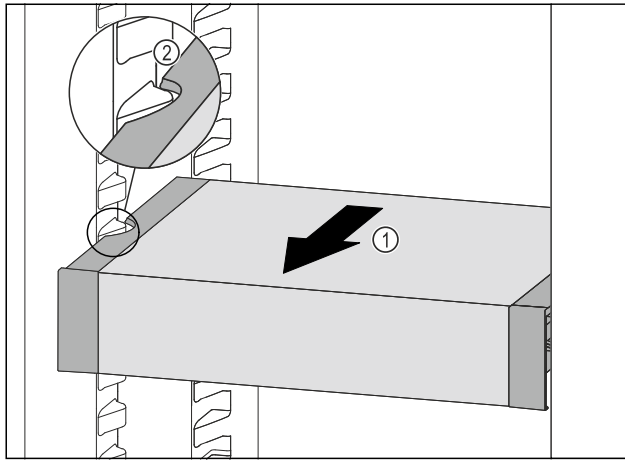

Fig. 124
- Pull VarioSafe forwards Fig. 124 (1) until the recesses in the side of the VarioSafe are at the level of the support rib in the fridge section. Fig. 124 (2)